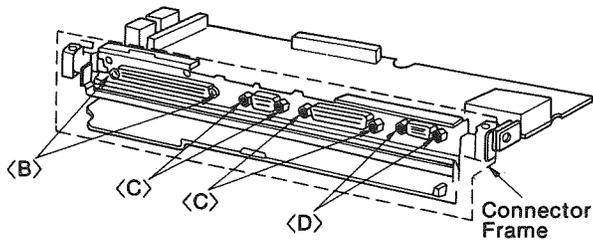

Figure 21
- (3) Remove the connector frame from the main PCB (Lower) by removing two screws  (2.6 × 5 mm), four screws <C>, and two screws <D> as shown in Figure 21.